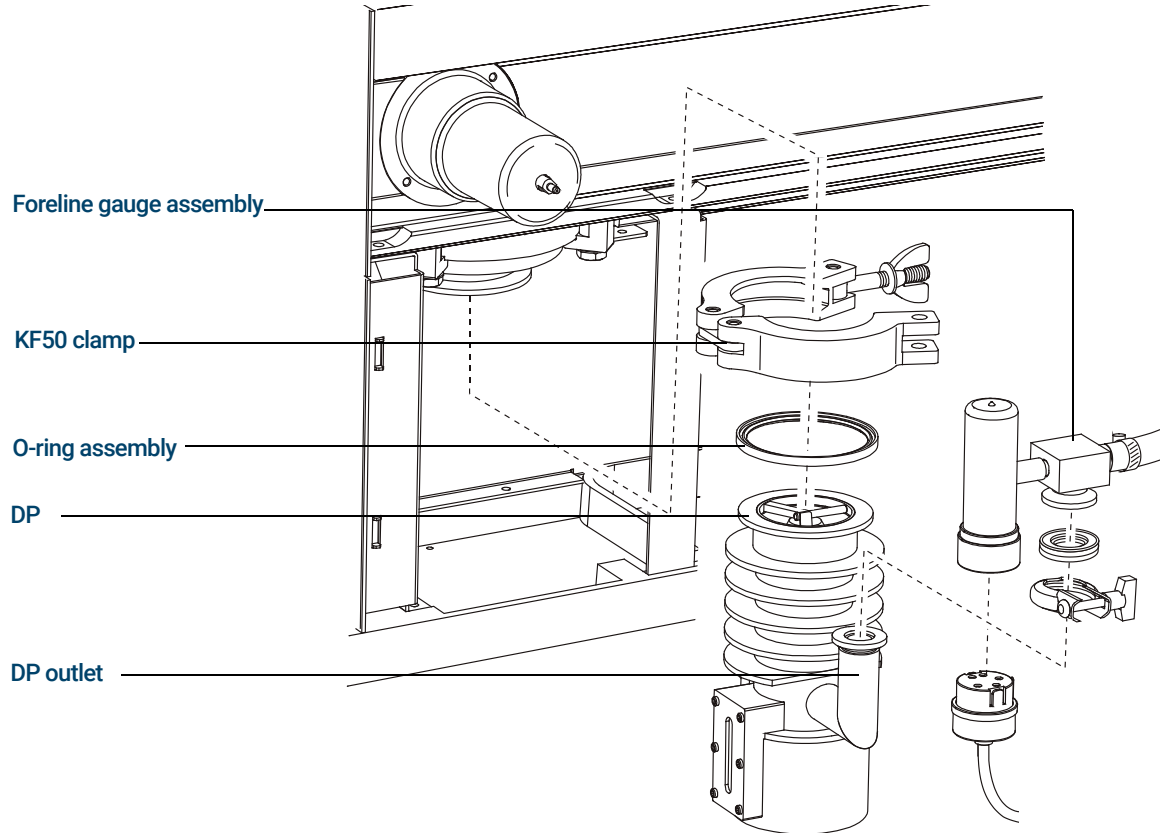

Figure 15. Installing the DP
- 3 Install the O-ring assembly on the DP. (See **Figure 15** on page 116.)